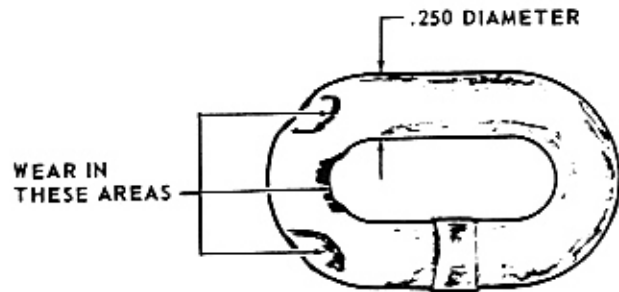

FIGURE 4-3. TYPICAL WEAR ON LINKS.
b. Inspect each individual chain link for wear to diameter of the link. See figure 4-3. The nominal diameter of the link is .250 inch. If the diameter of any link in the entire chain is below .200 inch, replace the entire chain.